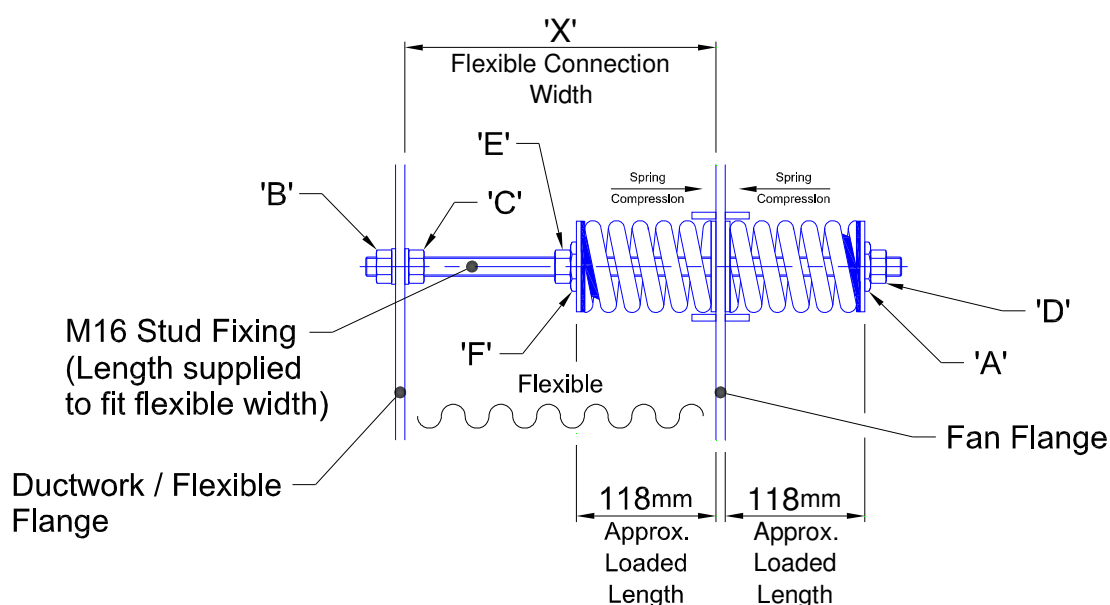

Figure 5
- 11) Once the correct flexible connection width 'X' has been attained, the springs should be preloaded to prevent loose components when either spring is under load during changes in airflow direction. This should be achieved by counter rotating nuts A & F in a clockwise direction until the spring dimension is as shown in Figure 5 (please note that the complete spring assemblies will rotate during this operation). This will apply a compressive preload to the springs and must be applied evenly.